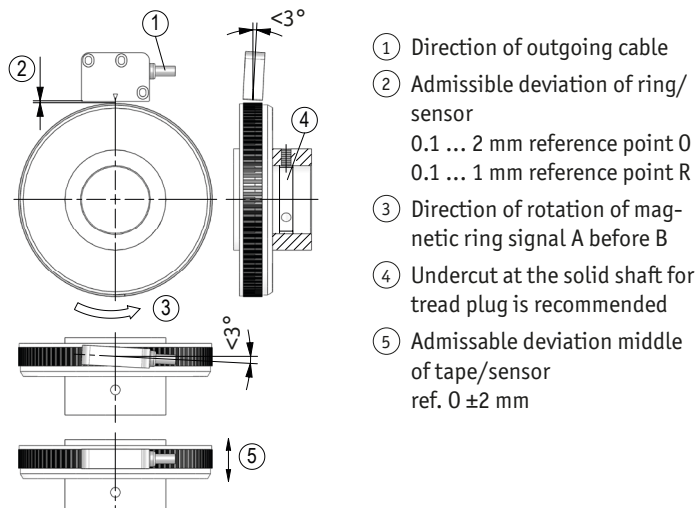

Fig. 8: Definition of the counting direction with magnetic ring and assemblage sensor/magnetic ring, gap measure, tolerances
3. Provide for a relief groove in the solid shaft (see Fig. 8).